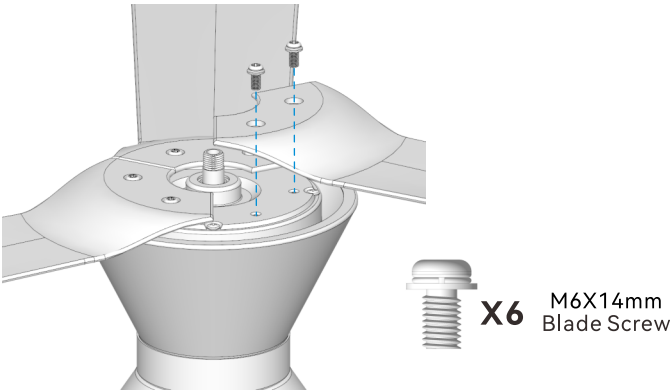

Fig. 1.1
- 1.1 Locate the 6 blade attachment screws included in the hardware pack. Use these screws to firmly attach each blade to the motor hub, as demonstrated in Fig. 1.1.